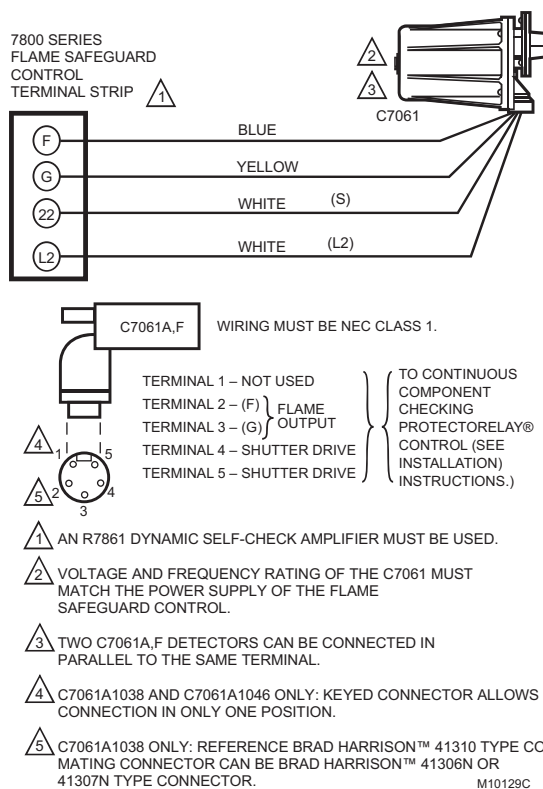

Fig. 10. Wiring diagram for C7061A,F Detectors with 7800 Series Flame Safeguard controls with shutter drive circuitry.
WIRING (FIG. 10)
- Refer to Fig. 10 for wiring connections.
It is suggested that a volt-ohm meter with a minimum sensitivity of one megohm/volt and a zero to five or ten Vdc scale be used for R7861 Amplifier flame signal measurements. Measure the flame signal as illustrated in Fig. 10. Be careful to make the proper connections of positive (red) meter lead to positive (+) control jack and negative (black) meter lead to negative (-) or (-Com) jack with 7800 Series controls. When the 7800 Series control has a Keyboard Display Module, a zero to five Vdc voltage is displayed on the module.